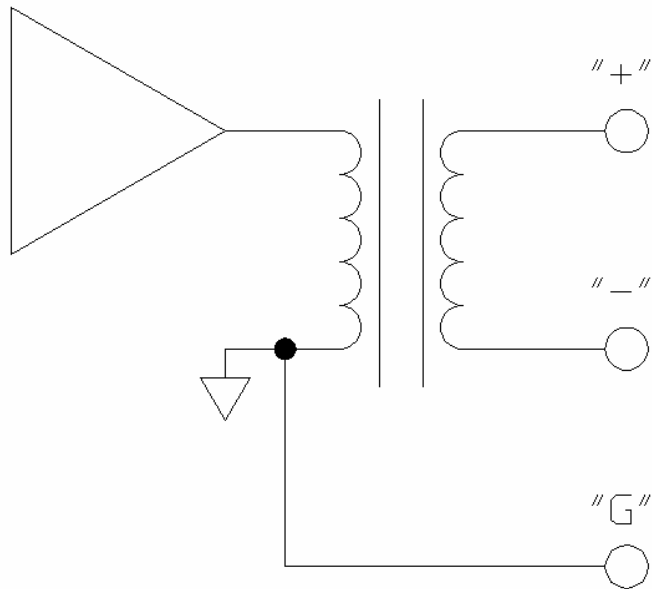

Figure 3: TEL/LINE OUT Driver Conceptual Diagram
- The **TEL/LINE OUT** is a 3-pin Phoenix-type connector with removable terminal strip plug that provides balanced, line-level output of a single (monaural) audio signal from the AUDIOPHILE processor. The output circuitry is 600-ohm transformer coupled, and is designed to be compatible with both “wet” and “dry” pair telephone line connections, in addition to normal line-level audio signal inputs to audio recording equipment, amplifiers, etc. Refer to Figure 3 for a conceptual diagram of how the audio output circuitry is coupled to the rear panel output connection.